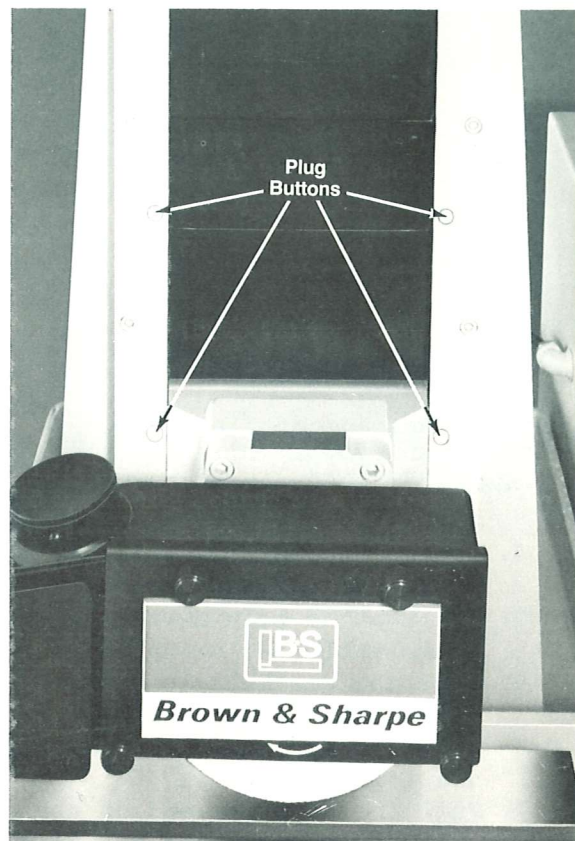

Fig. 4G. Location of plug buttons.
1. Remove the four plug buttons from the front of the upright straps (see Fig. 4G).